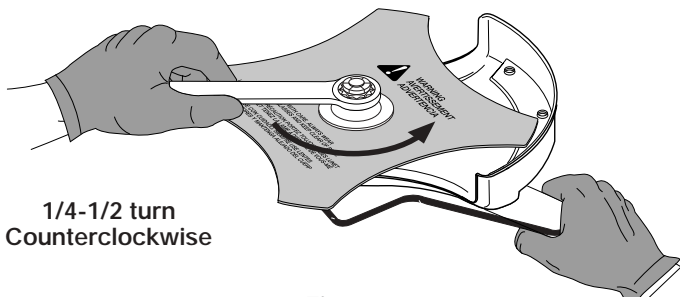

Fig. 13
- Without a torque wrench, use a 5/8 inch closed-end or socket wrench, turning the nut until the blade retainer is snug against the shaft bushing. Make sure that the blade is installed correctly, then rotate the nut an additional 1/4 to 1/2 turn counterclockwise (Fig. 13).